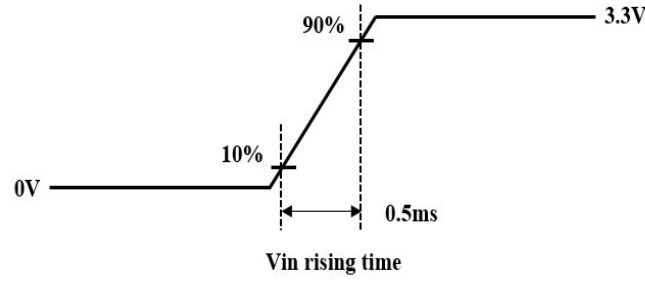

Figure 4. Inrush Measure Condition
(2) Calculated value for reference (VLED × ILED)
(3) Measure condition (Figure 4)